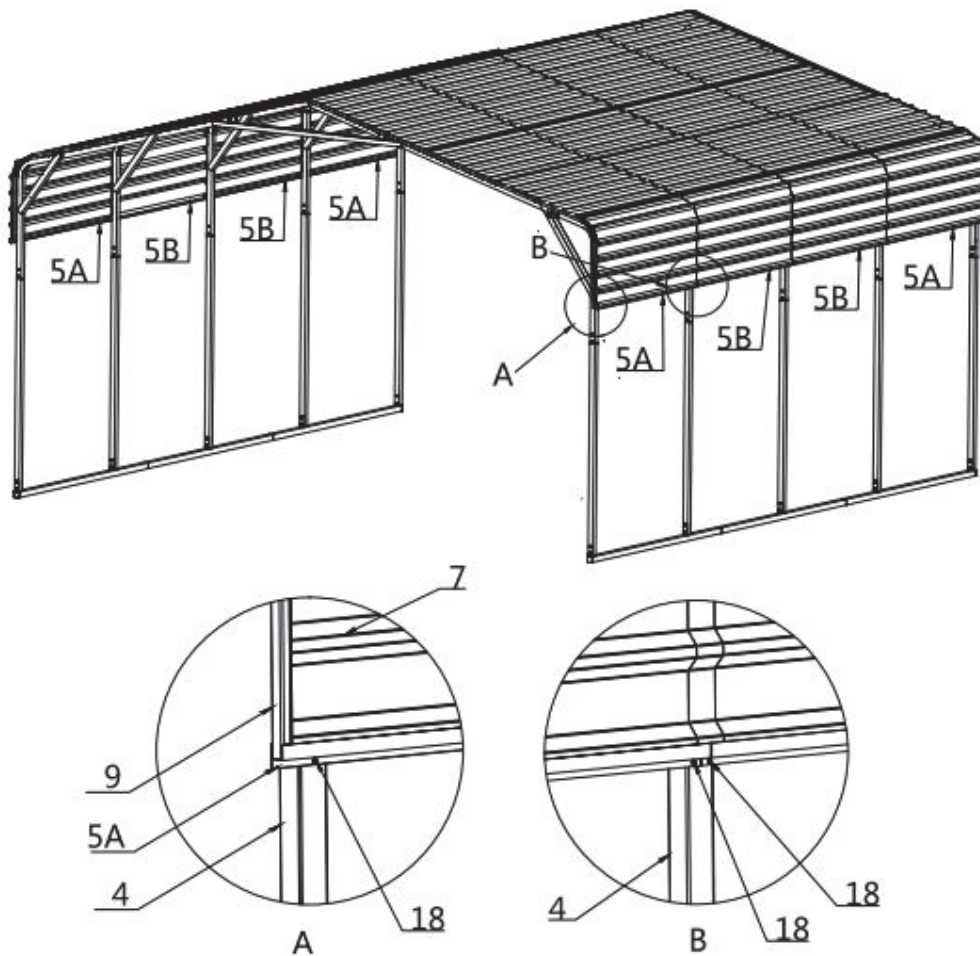

Figure 12
- Install the side connecting crossbar, align (#5A) side edge crossbar with the binding strip, wrap the colored steel tile binding strip and the colored steel tile inside the opening of the connect the crossbar, and fix them on the (# 4) Sidewall tube with (#18) self tapping screw. The installation method is the same on both sides (refer to Figure 12)
- (4) Connect the crossbar (#5A)